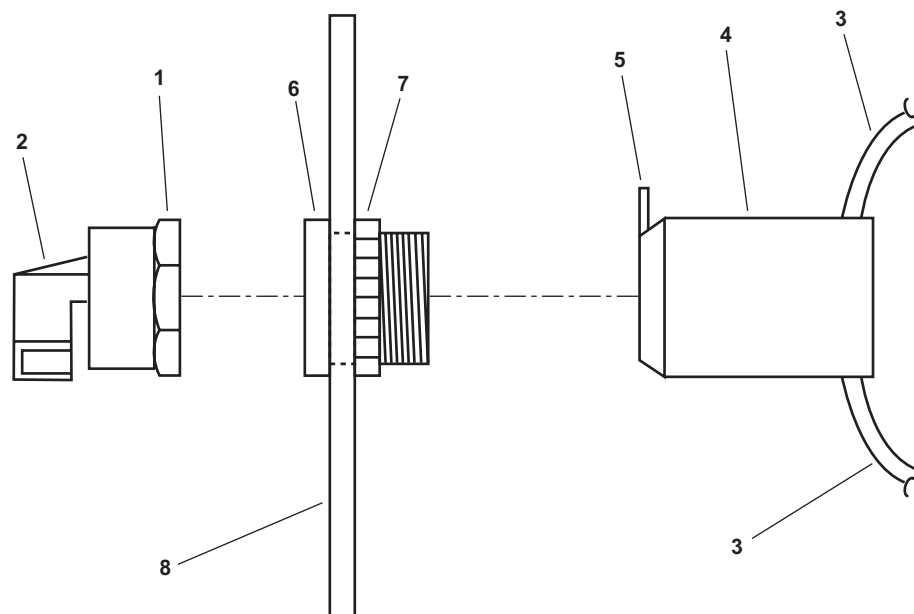

Figure 3. Rotary Switch Replacement
2. Unscrew the retaining ring (figure 3, item 1) and pull off the knob (figure 3, item 2).
3. Label and disconnect the wiring (figure 3, item 3) from the contactor (figure 3, item 4).
4. Lift the locking tab (figure 3, item 5) slightly and disconnect the contactor (figure 3, item 4) from the actuator (figure 3, item 6).
5. Remove the retaining nut (figure 3, item 7) and remove the actuator (figure 3, item 6) from the door (figure 3, item 8).
1. Install the actuator (figure 3, item 6) in the door (figure 3, item 8) and secure it with the retaining nut (figure 3, item 7).
2. Install the contactor (figure 3, item 4) on the actuator (figure 3, item 6) with the locking tab (figure 3, item 5) facing upward.
3. Connect the wiring (figure 3, item 3) to the contactor (figure 3, item 4) using the labels from step 3 in Removal as a guide. Remove the labels.
4. Install the knob (figure 3, item 2) on the actuator (figure 3, item 6) and secure it with the retaining ring (figure 3, item 1).